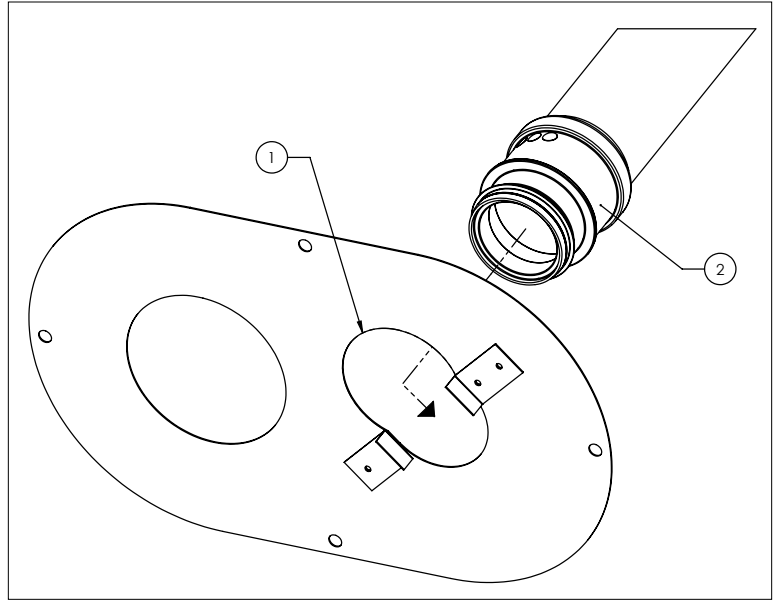
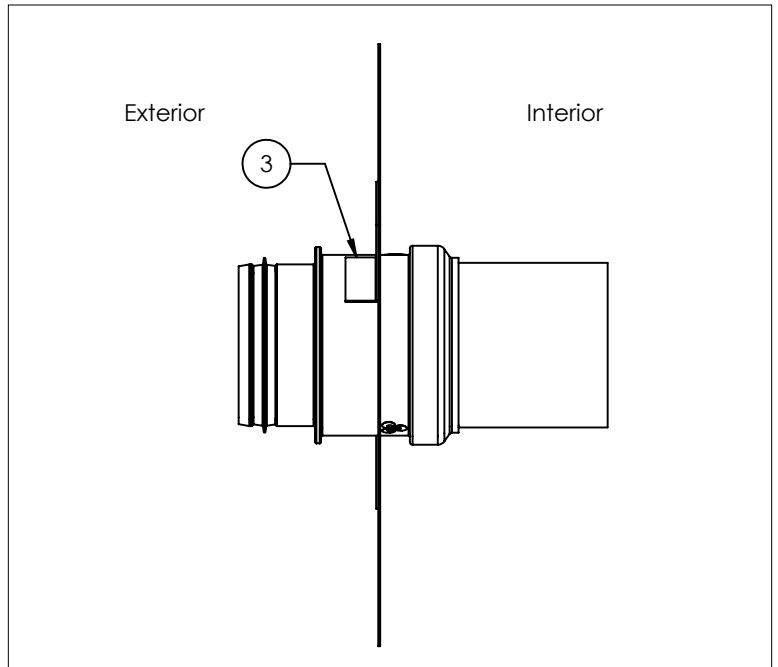

Figure 1
Figure 2
1. Slide PP pipe with PVC adapter (2) into oblong hole (1) and down. See *Figure 1*. Brackets will point away from the wall, on the exterior of the house, and rest between the two outward beads (3). See *Figure 2*.